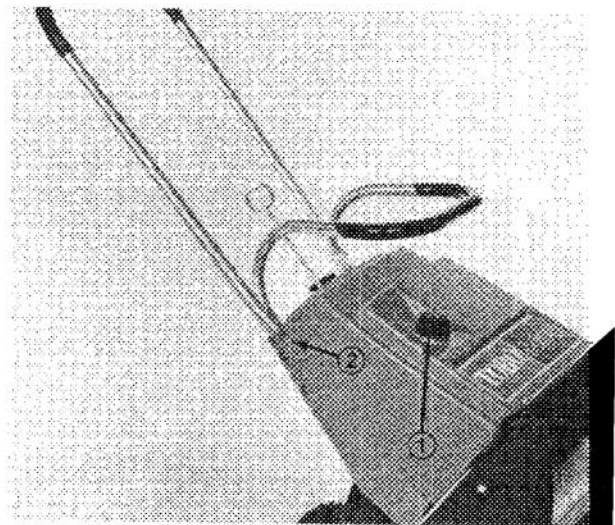

Figure 21
2. Remove cap from snowthrower fuel tank (Fig. 21).
3. Remove two self tapping screws holding sides of upper shroud; then remove shroud (Fig. 21). Reinstall cap on snowthrower fuel tank.
8. Remove cap from snowthrower fuel tank and set upper shroud in place (Fig. 21). Reinstall cap on fuel tank.
10. Insert front panel into grooves of upper shroud. Secure sides of upper shroud with two $\frac{1}{2}$ inch (12.7 mm) long self tapping screws (Fig. 21).